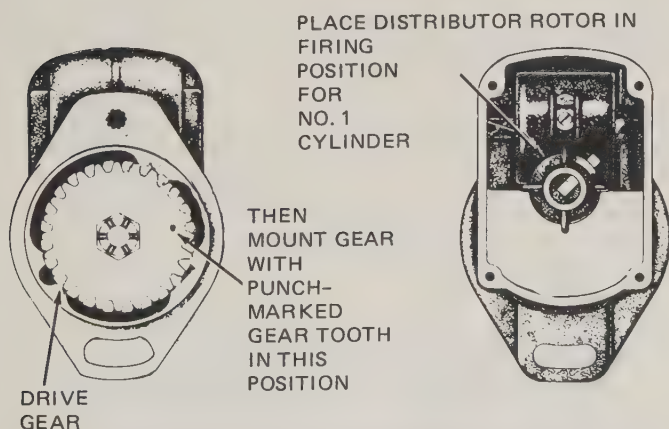

FIG. 26-32 The marking and position of the drive gear on the magneto rotor shaft. (Wisconsin Motor Corporation)
**○ 26-9 TIMING THE MAGNETO** Many externally mounted magnetos have the drive gear mounted at the end of the rotor shaft on the impulse coupling (Fig. 26-32). To replace the drive gear on certain magnetos, the following procedure must be followed to avoid installing the gear 180° off. Remove the end cover and turn the rotor until it is in the No. 1 cylinder firing position. This is shown in the right part of Fig. 26-32. Notice that the drive gear has a punch mark on one gear tooth. Place the drive gear on the impulse-coupling lugs with the punch mark located as shown in the left part of Fig. 26-32.